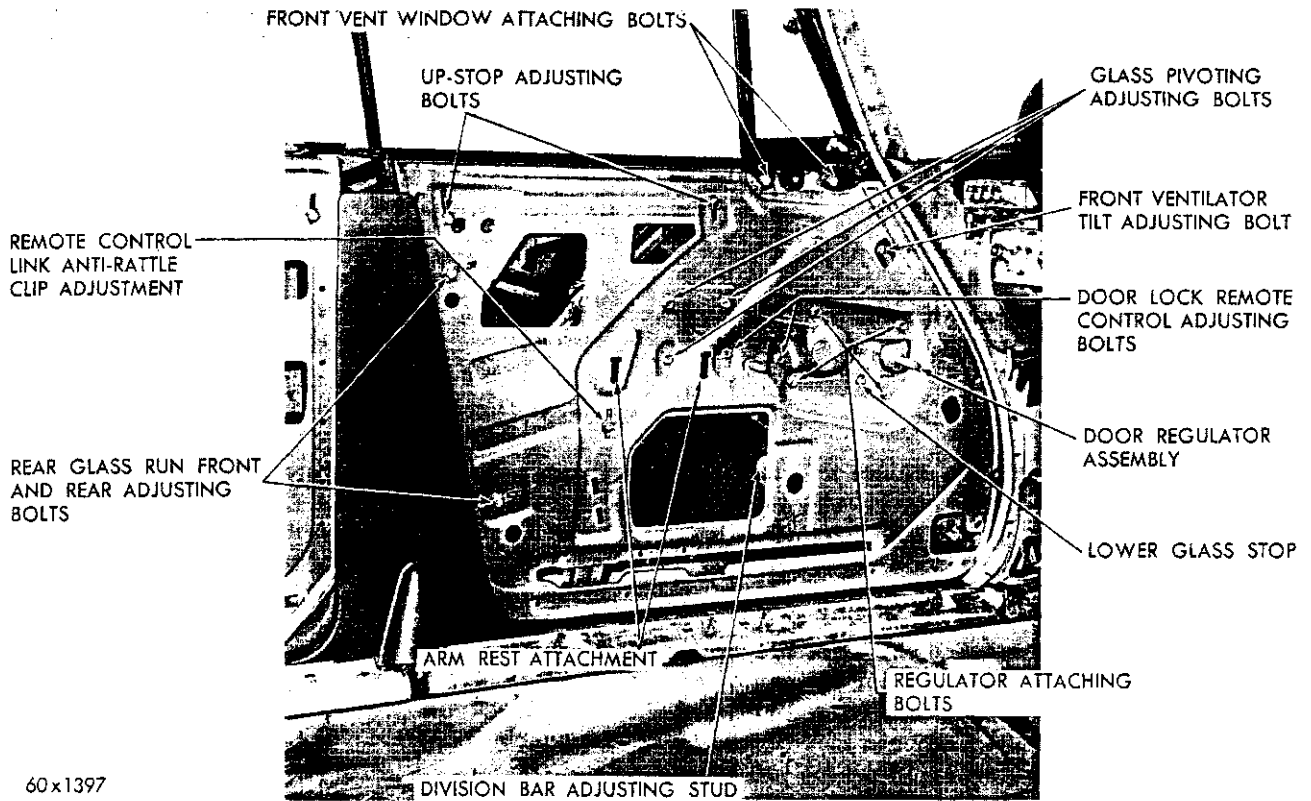

Fig. 58—Front Door Control Adjustments (Chrysler)
(4) Tighten the attaching screws and divisional bar nut.
(5) Inspect the ventilator for proper alignment.
(6) Raise the window and check alignment with the roof rail and weatherstrip.
(7) Adjust the rear guide upper adjustment to align the window with the outer edge of the weatherstrip so that only light contact is maintained with the lip of the weatherstrip.
(8) Adjust the rear track (Fig. 58) in and outer adjustment to line the glass up while positioning